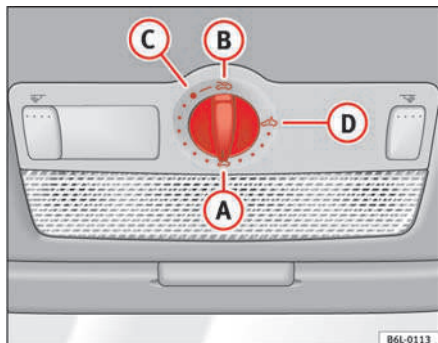

Fig. 53 Roof lining
- Turn the rotary button to position **A** ⇒ fig. 53 ⇒ .